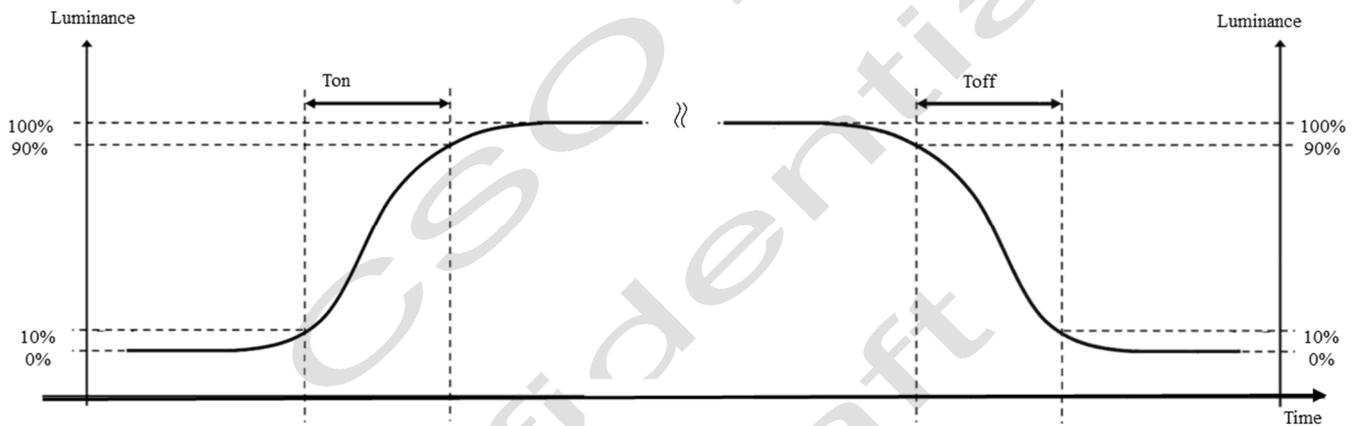

Fig. 7.4 The definition of T_{on} , T_{off}
(3) The electro-optical response time measurements shall be made as Figure 7.4 by switching the “data” input signal ON and OFF. The times needed for the luminance to change from 10% to 90% is T_{on} , and 90% to 10% is T_{off} .